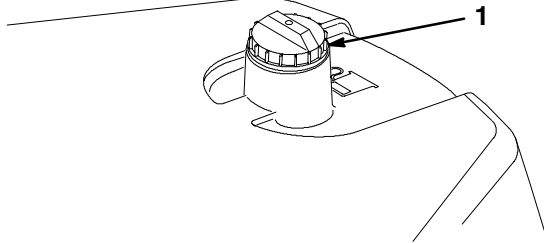

Figure 17
1. Clean the area around the fuel tank cap (Fig. 17).